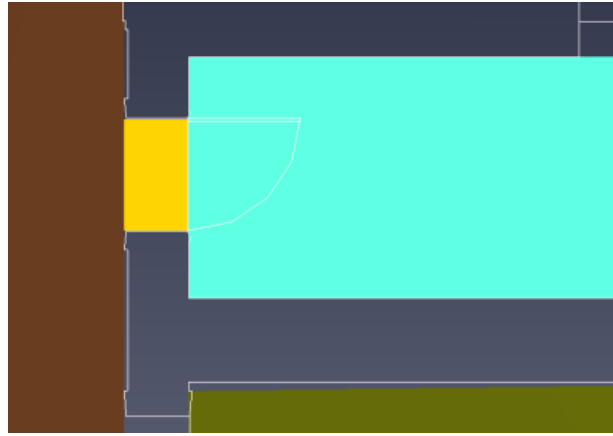

Figure 41. Thick door connecting the rooms
3. The created door will appear as an orange rectangle in the 3D and 2D views as shown in Figure 41.